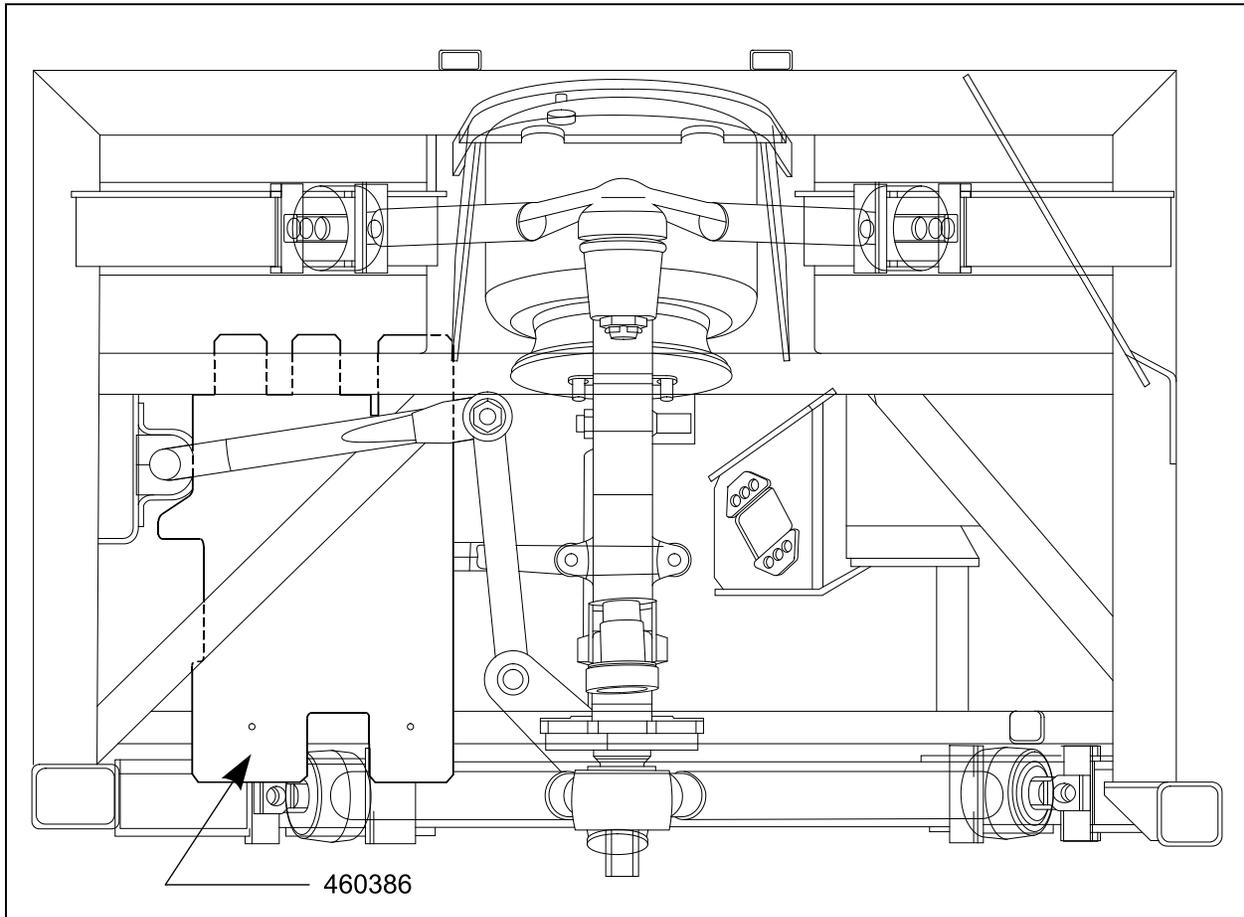

FIGURE 1: POTECTIVE PANNEL INSTALLED (SAME ON BOTH SIDES)
3. Install the panels (one per side) and secure using the screws included (refer to figure 1).